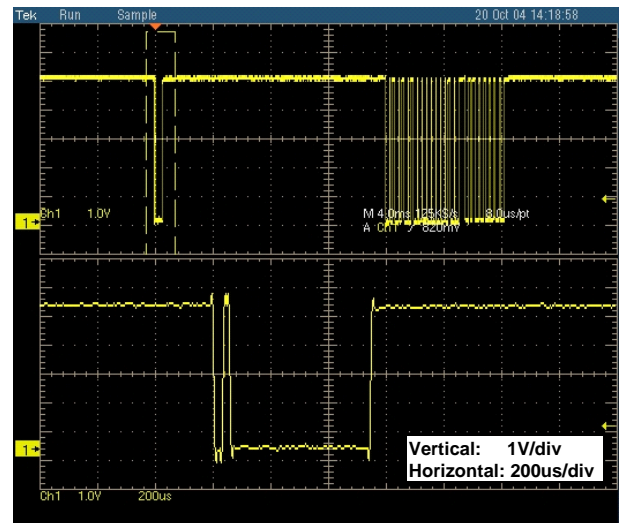

FIGURE 14. POWER-ON BREAK SIGNAL TO WAKE-UP THE ISL9206 FROM SLEEP MODE
break). Figure 14 illustrates the captured waveforms. If the user does not know if the device is in the sleep mode or is awake, the “regular break” option should be chosen, because the long break signal will still wake up a device in sleep mode, or will be ignored if the device is already awake. The send without a break signal can be an option if the user knows for sure that the device is not in the sleep mode.
out a 'power-on break' before sending the instruction frame. Figure 14 illustrate the two 'break' signals. The narrow one was sent by the host and the wider one was the one returned from the ISL9206 (approximately 480ms). From the 480ms 'break' signal, the BT can be calculated as
1. If the device is in the sleep mode, send a 'power on break' with a read instruction in the XSD Access tab to measure the returned 'break' signal for ISL9206, as shown in Figure 14.